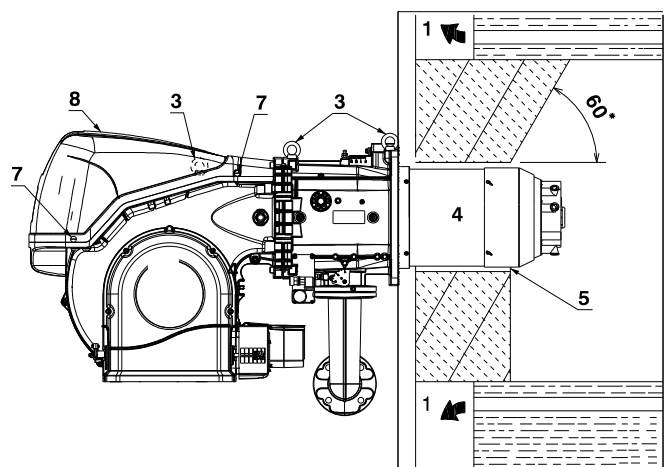

Fig. 15
For boilers with front flue passes 1)(Fig. 15) or flame inversion chamber, a protection in refractory material 5) must be inserted between the boiler fettling 2) and the blast tube 4).
For boilers with a water-cooled front piece, a refractory lining 2)-5)(Fig. 15) is not necessary, unless expressly requested by the boiler manufacturer.
Prepare a suitable lifting system using the rings 3)(Fig. 15), after removing the fixing screws 7) of the casing 8).
- Fit the heat insulation supplied onto the blast tube (4)(Fig. 15).